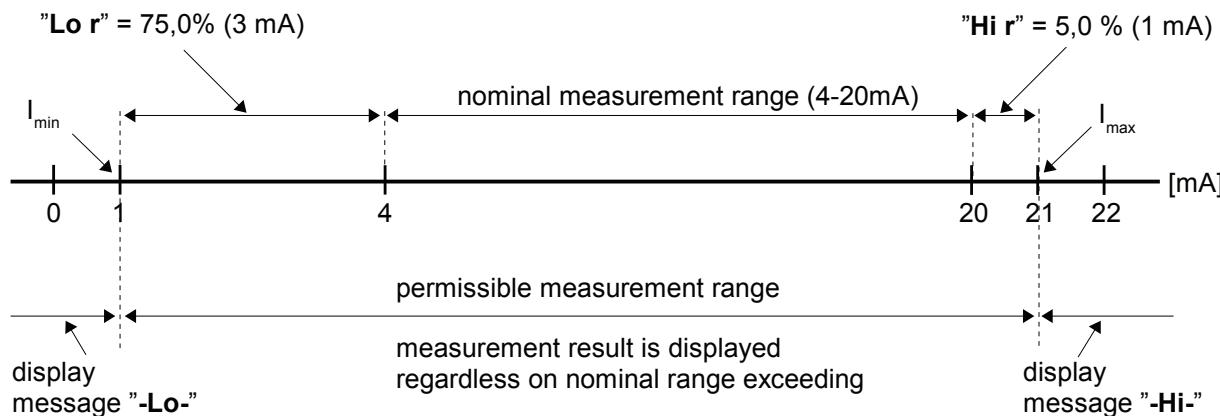

Figure 7.3 Example of definition of permissible range of input signal -
- these parameters define the expansion of nominal range in percent. They determine the permissible range of input signal (Figure 7.3).